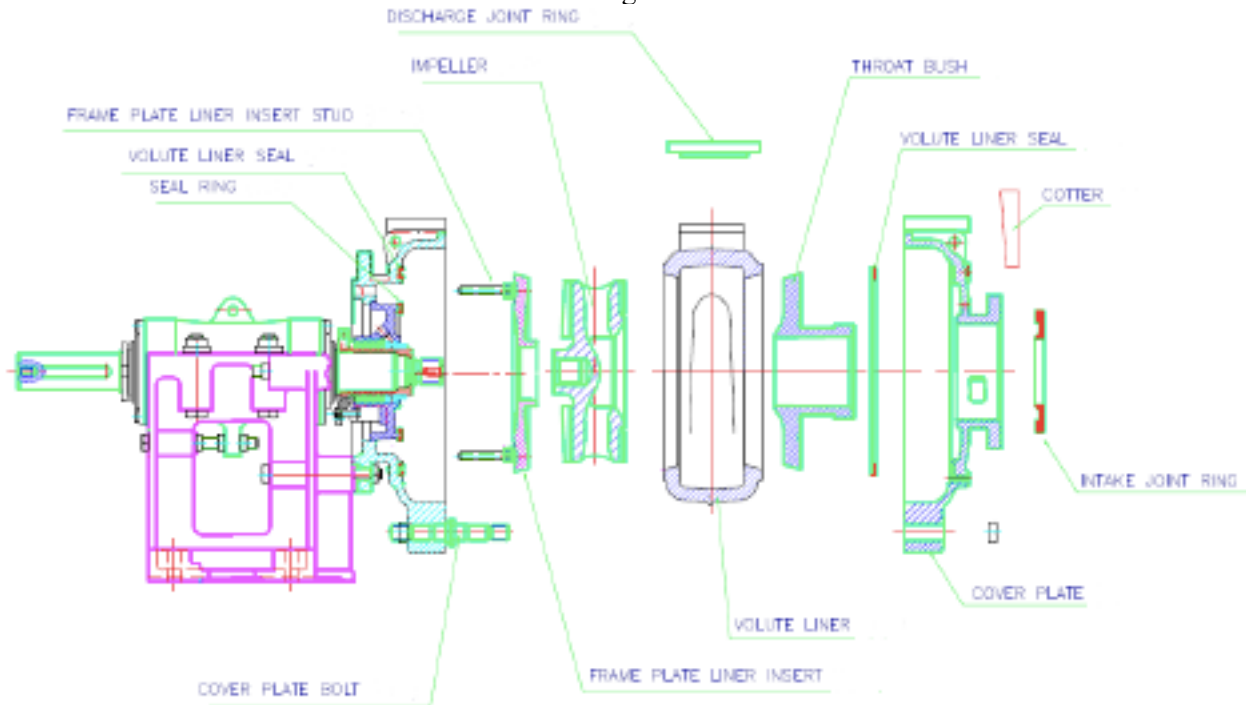

Figure 10-Assembling Three Piece Metal Liners
5.3.3 METAL LINERS - THREE PIECE – Ref Fig 10